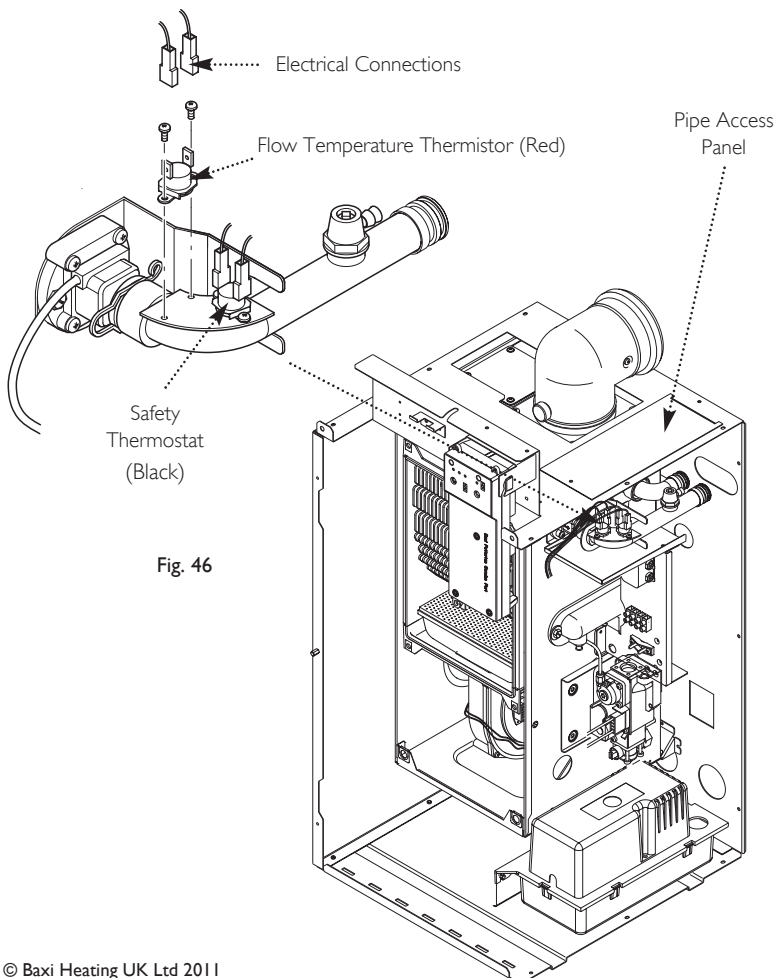

Fig. 46
The thermistor, safety thermostat, interface PCB and the flow switch can be accessed after removal of the pipe access panel (Fig. 46).
15.2 Flow Temperature Thermistor and Safety Thermostat (Fig. 46)